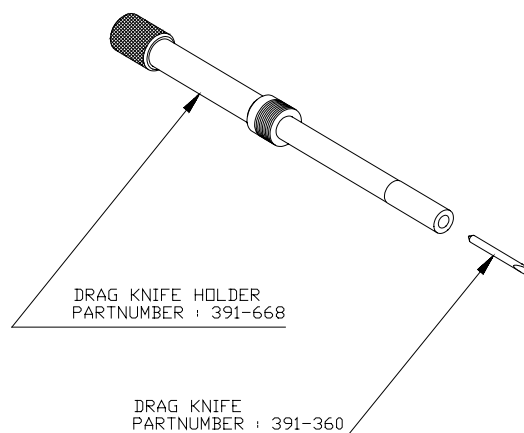

FIGURE 1-11:
2. Insert the drag blade into the drag knife holder as shown in Figure 1-11.